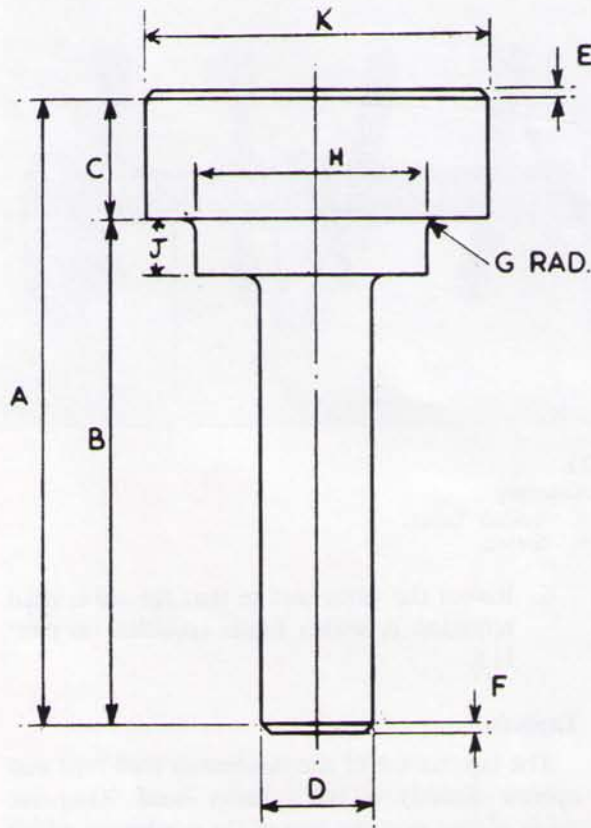

Fig. H.11.
4. Using a dolly machined to the dimensions Fig. H.11), again using the valve guide bore as a pilot, press home the insert using steady pressure from a hand or hydraulic press. Under no circumstances should the insert be hammered in or lubricated.